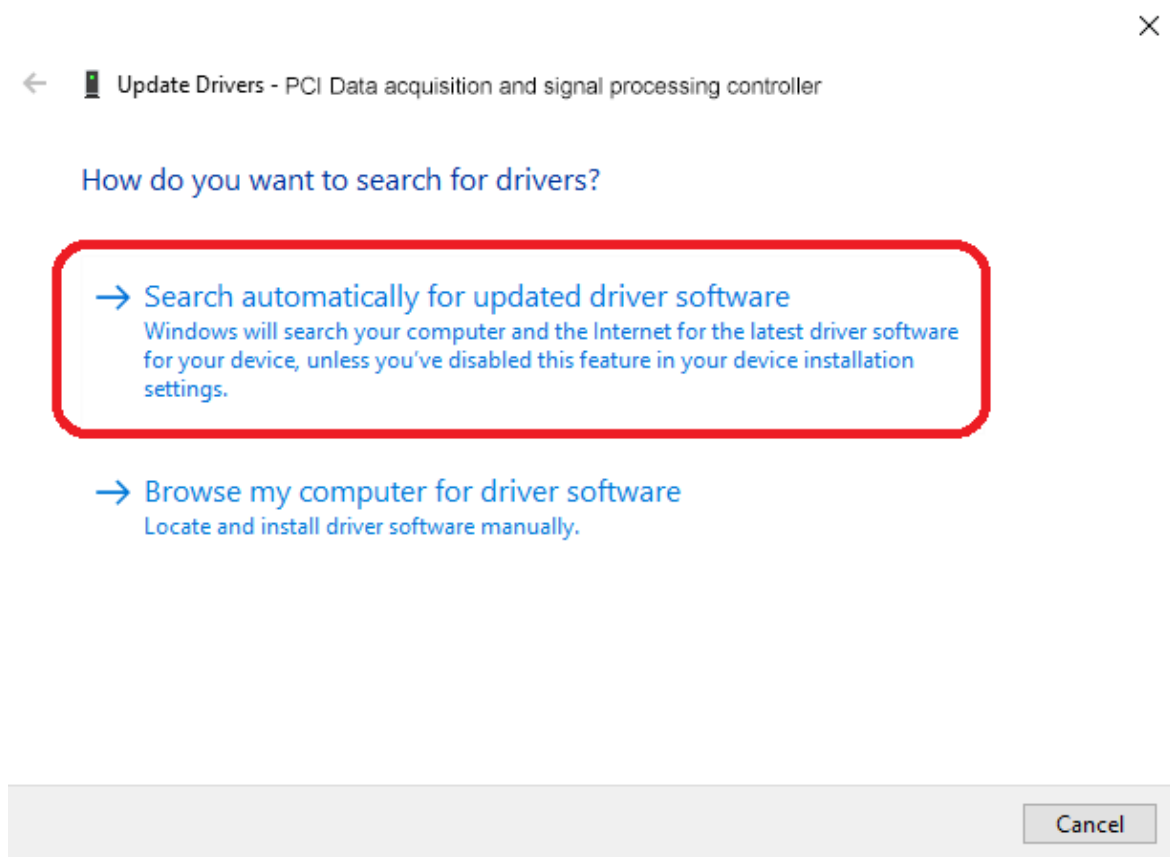

Figure 2.5 Browse my computer for driver software.
- 2) Select "PCI Data Capture and Signal Processing Controller", right-click and select "Update Driver". Select "Browse my computer to find driver software" in the pop-up dialog box, as shown in Figure 2.5 below.